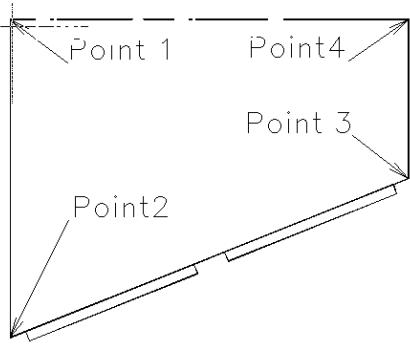

Figure 6
1. Here is a faster method of drawing counter top for odd shaped cabinets / kitchens. In plan view, turn off all unnecessary layers for these steps (except 0, 4, 5, and appliances if necessary). Make layer 0 the active layer, and draw a **LINE** (V) through all points on sides that will have the counter overhung. (Figure 6)